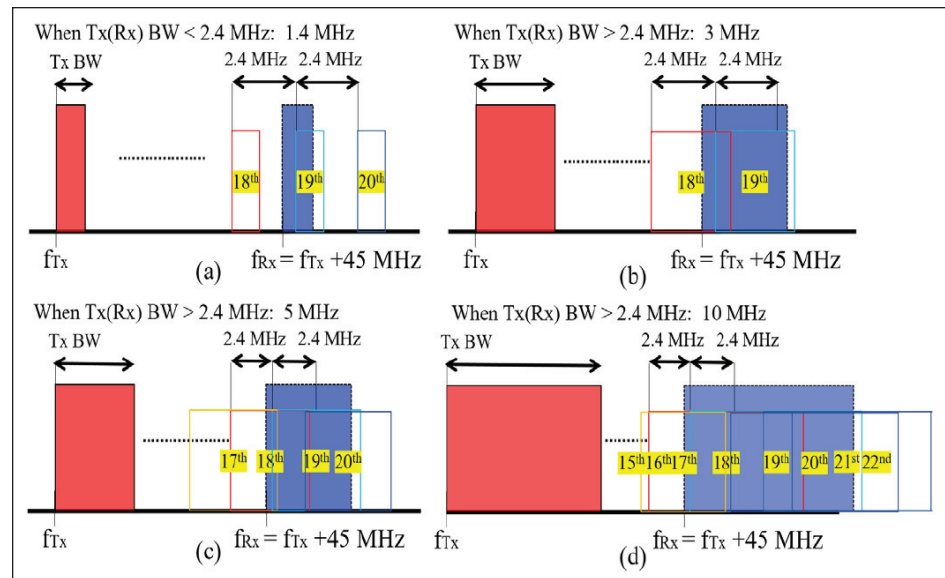
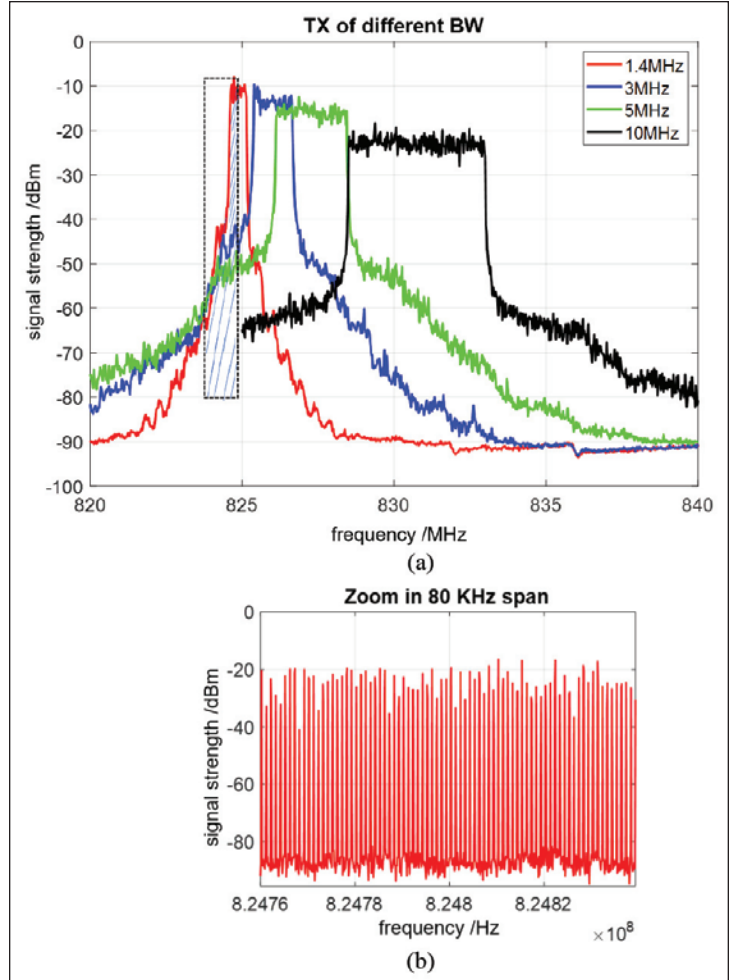

Figure 3: Interfering clock harmonic orders for different TX bandwidth: (a) 1.4MHz; (b) 3MHz; (c) 5MHz; (d) 10MHz.
Figure 4: TX spectrum and the interfering RF power: (a) TX signals (different bandwidth settings) (b) zoomed in spectrum of TX (10MHz case).
The clock harmonics are narrow-band signals, but the TX signals are wide-band. The up-converted sideband noise due to the modulation will be wideband, and the bandwidth of each modulated harmonic will be equal to that of TX. The simplest case is shown in Figure 3(a) when the TX bandwidth is smaller than the fundamental frequency of the Dmic clock. Only partial power of the 19th order of the harmonic will interfere with the receiving band. When it comes to the cases with wider TX bandwidth, the 19th order harmonic will always interfere with the RX band while more and more adjacent harmonics will be involved as the TX/RX bandwidth increases. As Figure 3(b), 3(c), and 3(d) demonstrate, when TX/RX bandwidth is 3 MHz, 18th and 19th harmonics will partially contribute to the total received power, known as received signal strength indicator (RSSI), within the RX range. While when TX/RX bandwidth is 5 MHz, 17th ~20th harmonics will interfere with the RSSI and when TX/RX bandwidth is 10 MHz, the 15th ~22nd harmonics contribute to RSSI. As mentioned in Section II Part A, regardless of channels selected to transmit and receive, the duplex spacing always keeps the same. But when the TX bandwidth
As Figure 4 shows, the measured wideband TX signal occupies a 1.4 MHz bandwidth and the RF power will be dominant within the frequency range of $[f_{TX}, f_{TX} + Bandwidth_{TX/RX}]$, in this example $Bandwidth_{TX/RX} = 1.4$ MHz. Furthermore, only part of the modulated 19th harmonic will interfere with the receiving range as Figure 3(a) shows, so the accordingly considered frequency range is marked in Figure 4(a) shadowed range. Then the unwanted power at the n th order harmonic can be expressed as [11]:
Furthermore, the wideband TX signal is not a continuous spectrum but is composed of thousands of narrowband tones with 1 KHz interval between adjacent tones if zoomed in to a small span as Figure 4(b) shows. When the resolution bandwidth
where $P_{measured}$ is the measured curve in the spectrum analyzer. m_1 and m_2 satisfy $f(m_1) = f_1$ and $f(m_2) = f_2$ is the recorded frequency axis data. As it can be observed in Figure 4(a), the spectrum distributions over frequencies of the TX are roughly flat within the working bandwidth. Therefore, if the total radiation TX power is known, (5) can be further simplified as: